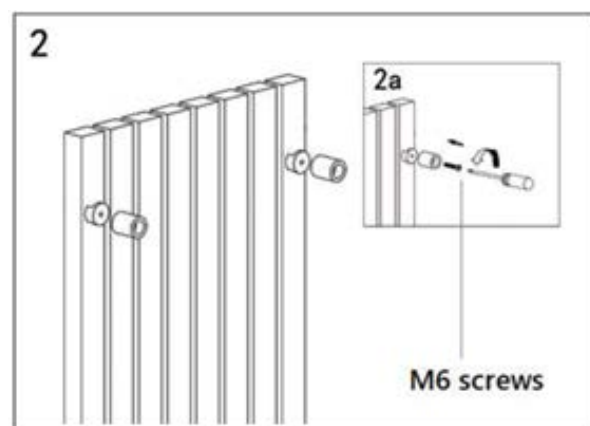

Figure 3 | Fixing the radiator brackets
2. Attach the Radiator Brackets (A) to the back of the radiator using the M6 Screws (B), as shown in Figure 3.